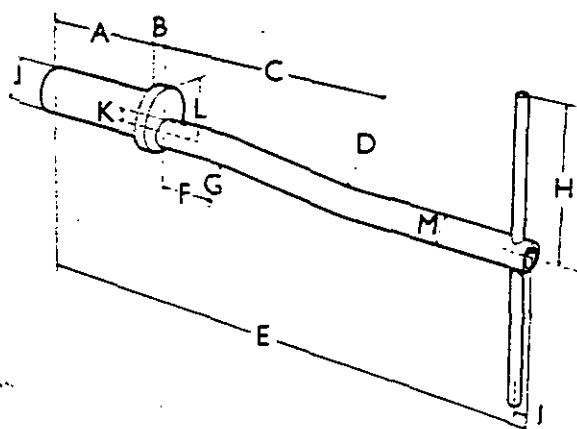

Figure 4. TOOL FOR REPLACING DIFFERENTIAL LOCK SLEEVE
6. Push differential-lock spring into differential gear and push sleeve against the spring. Insert the special tool (Fig. 4) into axle case and against the sleeve. Push sleeve against spring until the splines on the sleeve start to enter the differential gear, then turn the tool to engage